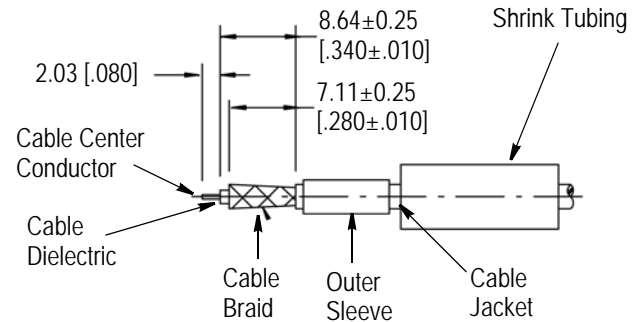

Figure 2
- Strip the cable to the dimensions shown in Figure 2. Flare the cable braid.